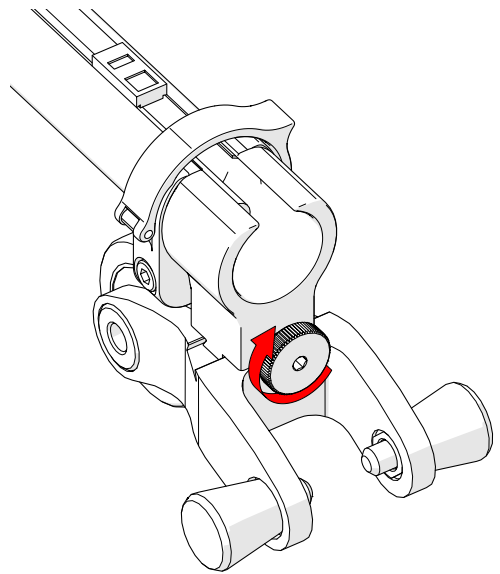

Fig. 72 - Tighten knob
2. Once centred on the dovetail link, tighten the cable management's dovetail mount knob (Fig. 72).